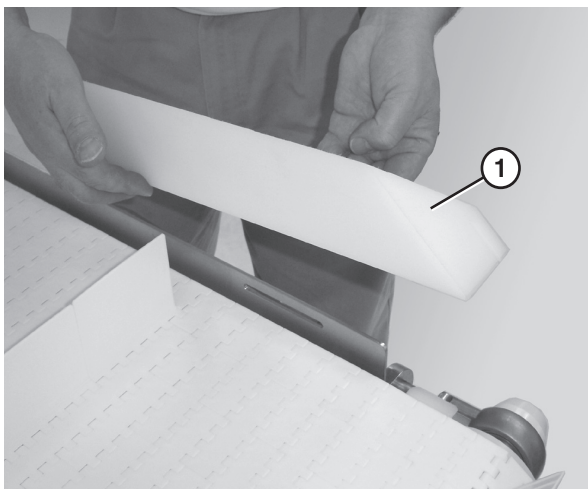

Figure 47
2. Remove the guide (Figure 47, item 1).